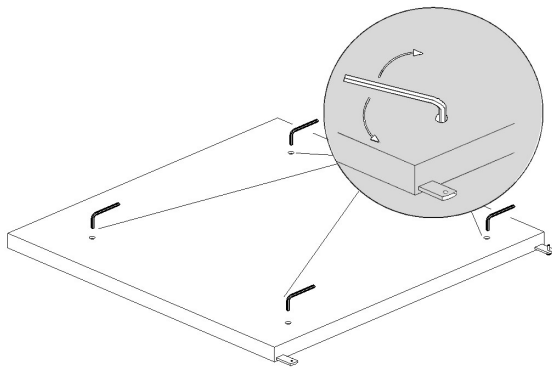

Fig. 2
- Place the bottom panel in the ground; pay attention to the fact that the device should be slightly slanted backwards to facilitate the closing of the doors and assure a perfect functioning. Small level differences can be compensated through the regulation of feet (Fig. 2);